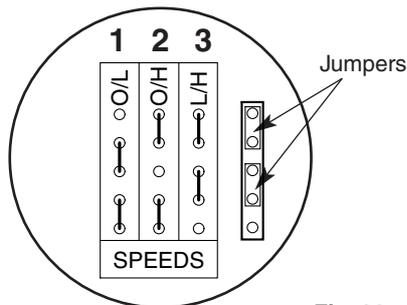

Fig. 28
13. Connect the wires to the terminal block. Connect red to red, white to white and black to black (Fig. 28).
15. The HR25P unit is factory set to switch between high or low speed. Two alternative settings can also be achieved by changing the position of the 'jumpers' on the control board (Fig. 28).